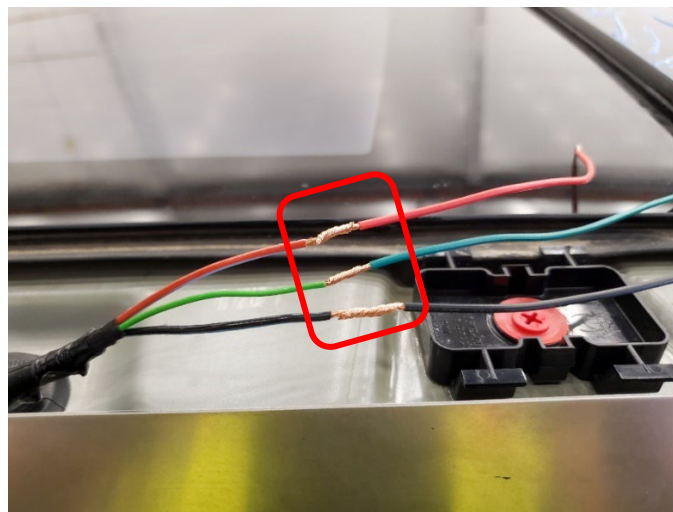

Figure 14
14. Carefully wrap the roof accessory jumper harness wire ends (x3) around the off road lightbar jumper wire ends (x3) (Figure 14).
17. Use the wire harness repair kit to solder the roof accessory jumper harness and the off road lightbar jumper connections (x3) (Figure 14).